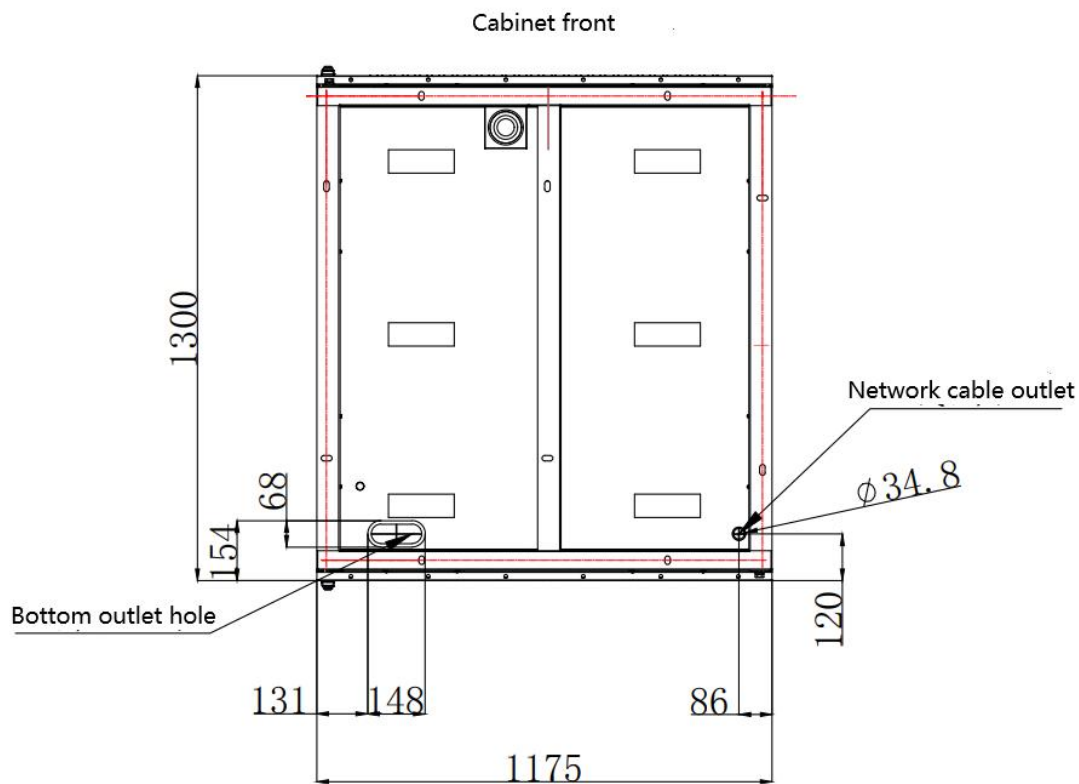

Figure 3-1 Mounting Hole Layout (Unit: mm)
1. Confirm the fixing holes on the installation surface align with the bottom mounting holes of the cabinet. Refer to "Figure 3-1" for hole positions.